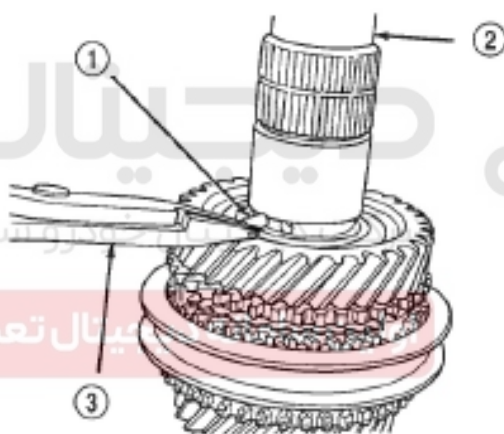

Figure 3-136 Spacer pin for split thrust washer
(4) Assemble the snap ring for 3-4 synchronizer in the input shaft groove.
(5) Install the stopper ring in 3-4 synchronizer and the fourth gear needle bearing.
(6) Assemble the fourth gear on the input shaft.
(7) Assemble the spacer pin for 4-5 split thrust washer (Figure 3-136).